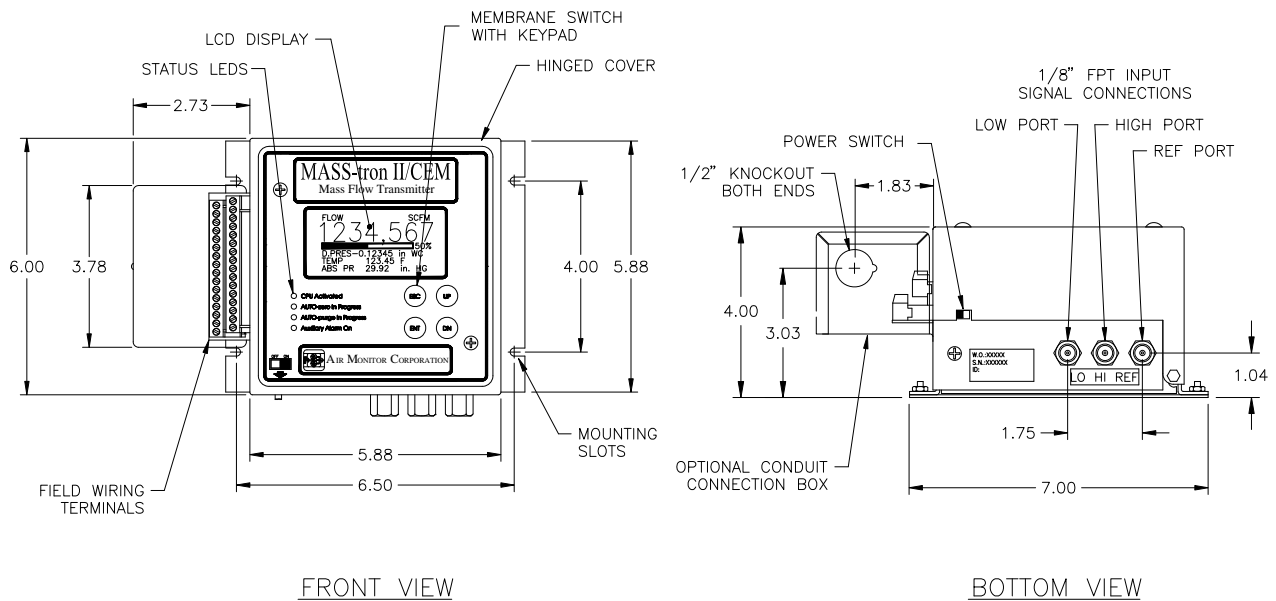

Figure 4.1
When connecting or disconnecting any wiring to the MASS-tron II/CEM, the unit's power switch (see Figure 4.1) must be in the OFF position.
1. After Installation has been verified in accordance with Section 4, turn power switch located at the lower left side to the ON position (see Figure 4.1).